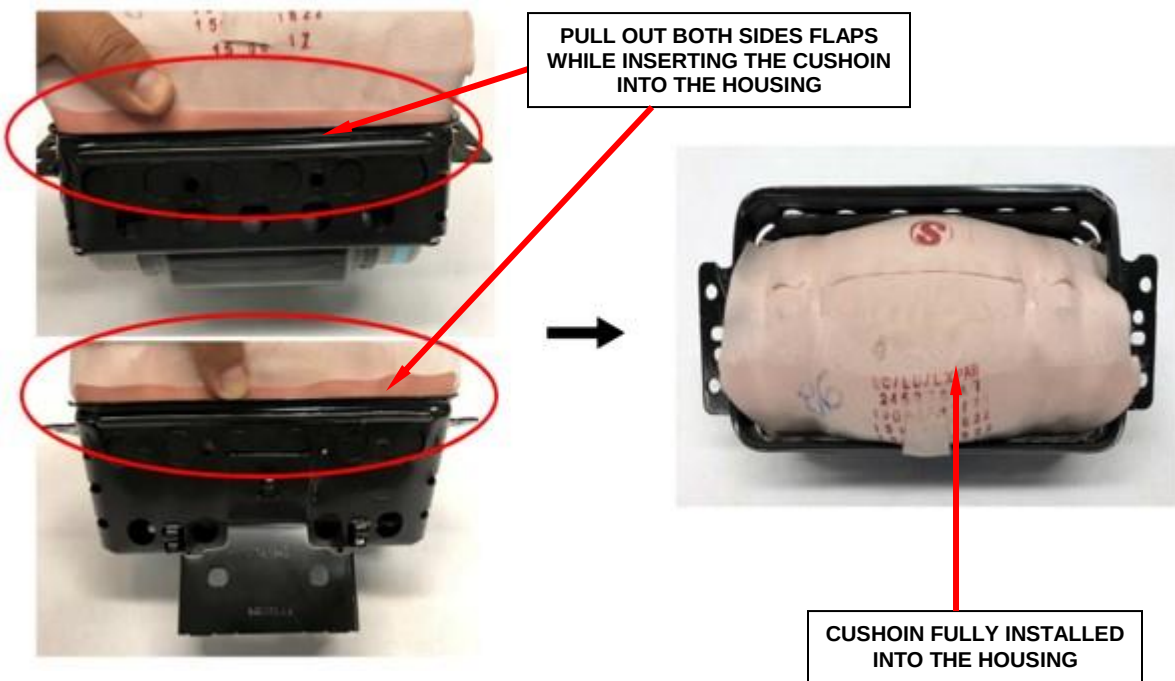

Figure 102 – Side Flaps Must Be Held Out
- l. Insert the cushion, pulling out both side flaps (Figure 102).